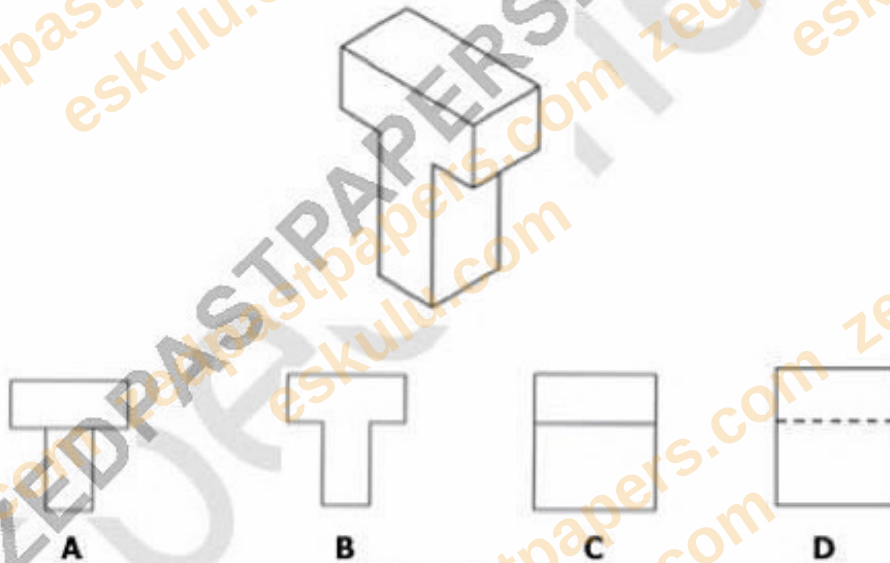

Figure 1
- 2 **Figure 1** below shows a block used as a teaching aid by our Design and Technology teacher. Identify the correct end elevation.